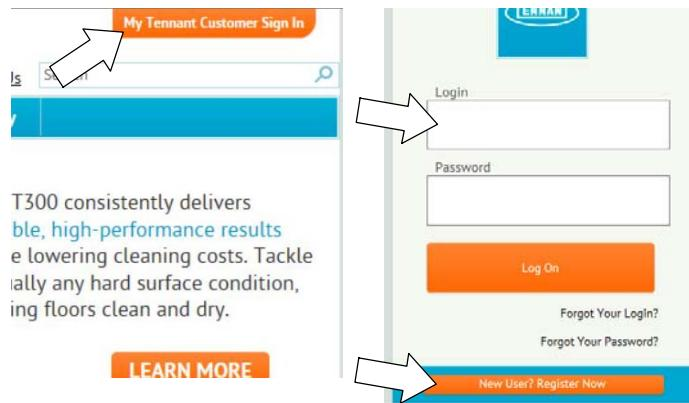

Fig. 35
1. Log in to the “My Tenant” website or register as a new user (Figure 35).